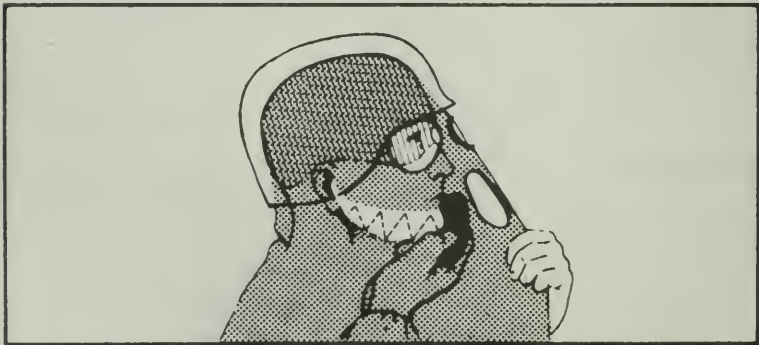
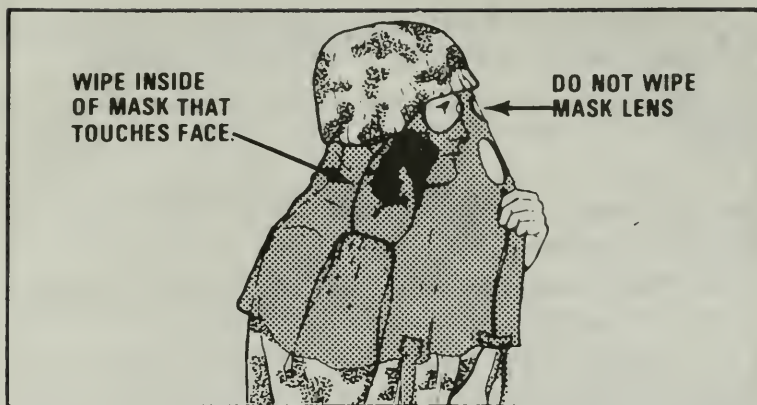

Figure 269. Decontaminating the face.
Figure 270. Decontaminating the inside of the mask.
(3) Scrub across closed mouth to the center of your upper lip.
(4) Scrub across, closed mouth, to the corner of your mouth.
(5) Scrub across your cheek to the end of your jawbone.
j. Scrub up and down from one end of your jawbone to the other. (Figure 269).
(1) Begin where you ended in step i.
(2) Scrub across and under your jaw to your chin, cupping your chin.
(3) Scrub across and under your jaw to the end of your jawbone.
k. Turn your hand out and quickly wipe the inside of the mask that touches your face (Figure 270).